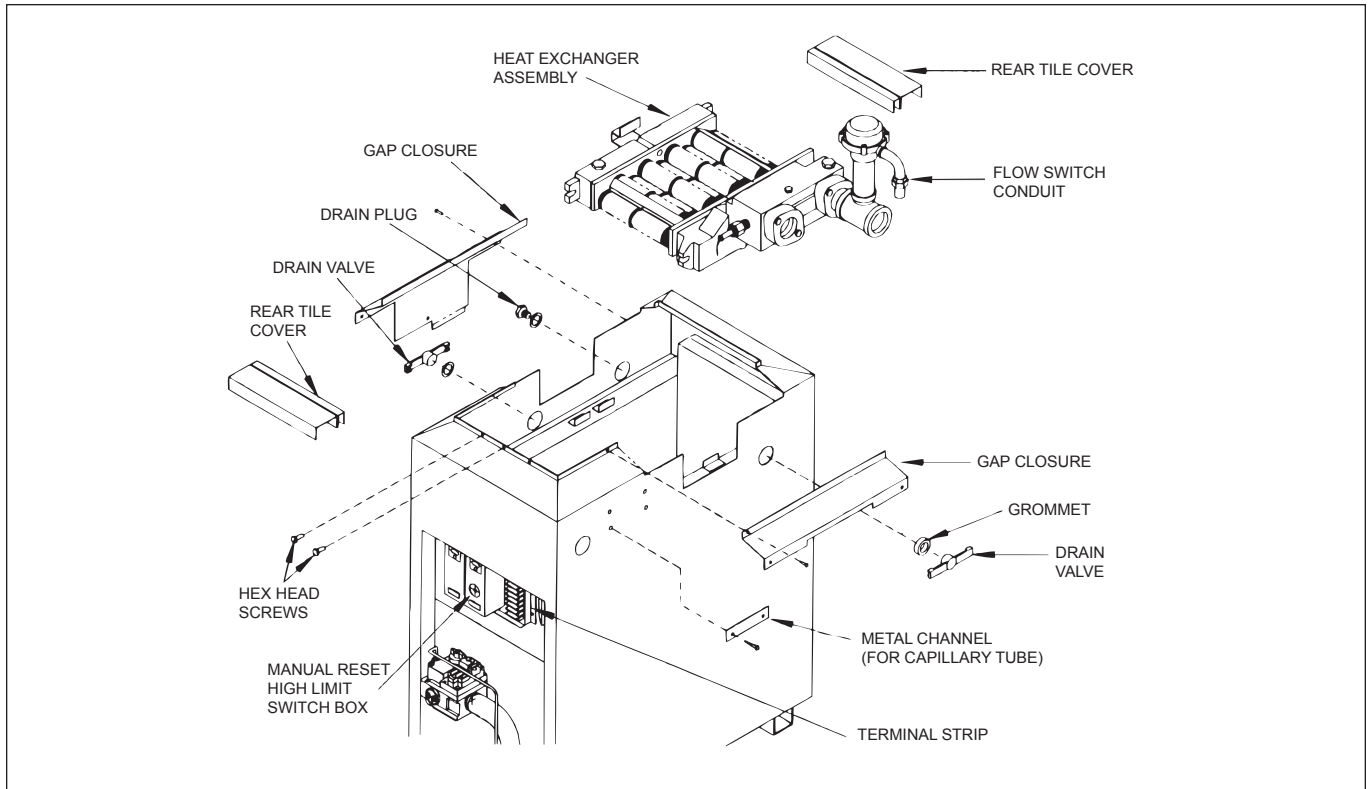

Figure 15. Heat exchanger reversal.
3. If the unit is in the low-profile outdoor configuration, remove the hex-head screws (see Figure 15) and lift the grate top assembly straight up.
8. Remove the drain valves and plug. There is one hex plug on the left side, near the rear of the jacket. The drain valves are located on the left side and right side of the heater (see Figure 15).
10. In the control compartment, find the manual reset high-limit switch box (see Figure 15) and loosen the screw on the top to remove the cover.
19. Remove the front and rear tile covers (see Figure 15).